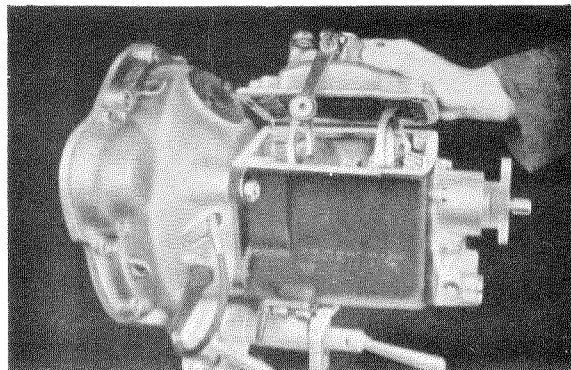

Fig. 26 — 4/13
27. Coat the separating surface of the transmission case with sealing compound. Install a new gasket on the transmission case, install the transmission case top cover and screw down (Fig. 26 — 4/13).
The selector finger lever (1) and the shifting shaft lever (2) must be in neutral position (see Fig. 26 — 4/11).